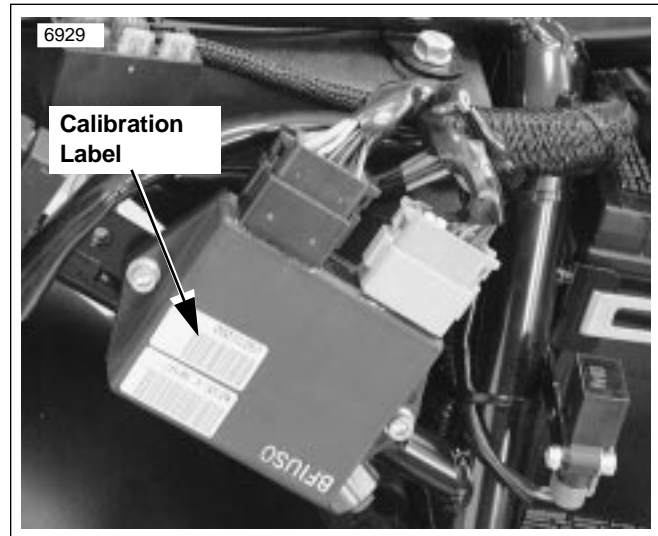

Figure 1. ECM Calibration Label Location (S3 Shown)
14. See Figure 1. Locate the ECM on the motorcycle. There are two labels on the upper right hand corner of the ECM. The lower label is the calibration label. Remove the old calibration label from the ECM. Leave the top label in place.